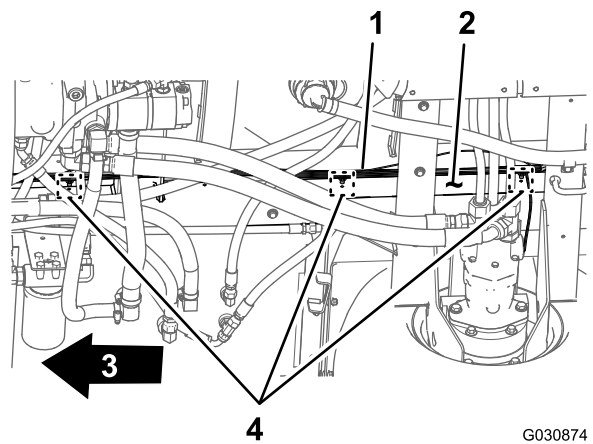

Figure 112
3. Route the 165 cm (65 inches) branch and the 203 cm (80 inches) branch of the electrical harness forward along the right frame tube (Figure 112).
4. Insert the fir-tree anchors of the 203 cm (80 inches) branch of the rear wire harness into the holes in the right frame tube (Figure 112) where the fir trees of the old rear harness were removed; refer to step 3 in Disconnecting the Front and Rear Wire Harnesses (page 18).